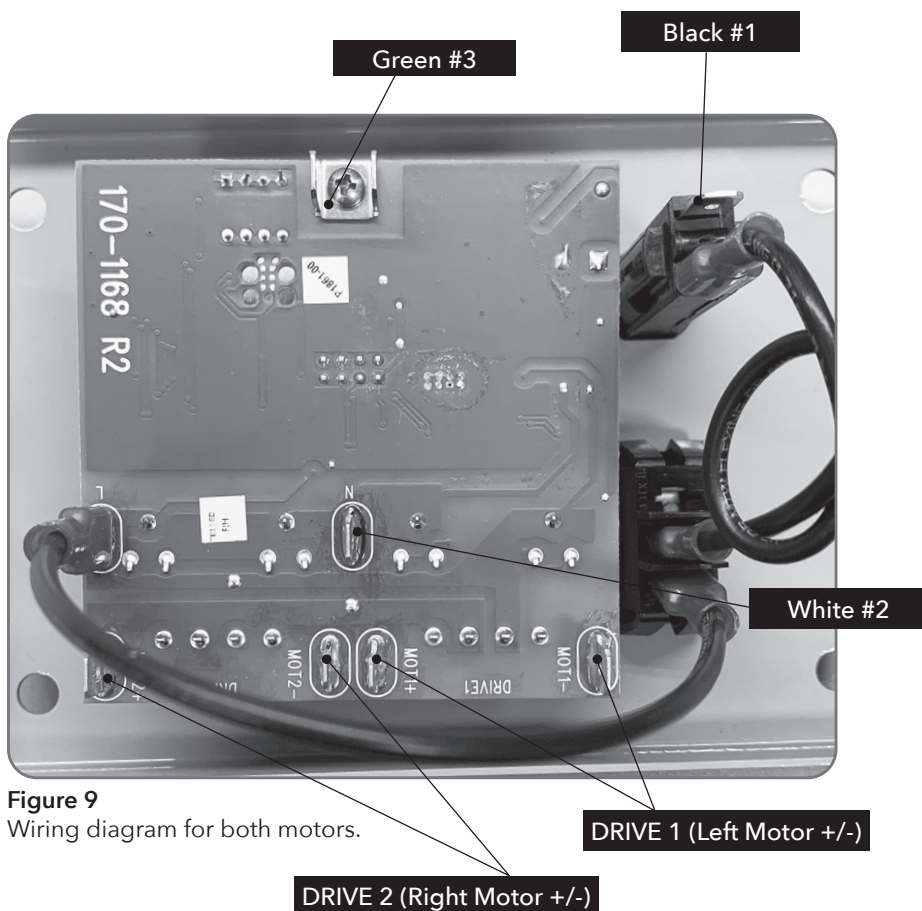

Figure 9
3. Remove four screws holding controller faceplate into main casting. Note the position of the main power and motor wires on the controller, then disconnect the wires. See Figure 9 for the two motor wires.
Be sure wires are correctly reinstalled. Motor wire connectors are different sizes. Be sure they are installed on the correct size terminal. See Figure 9 for the two motor wires.